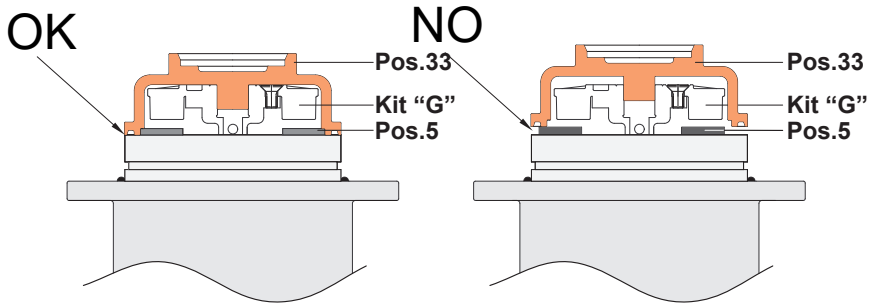

Fig. 9.04
9. 2.04) Fit the diffuser on the impeller kit "G", making sure to position the washer pos.5 correctly (see fig.9.04).